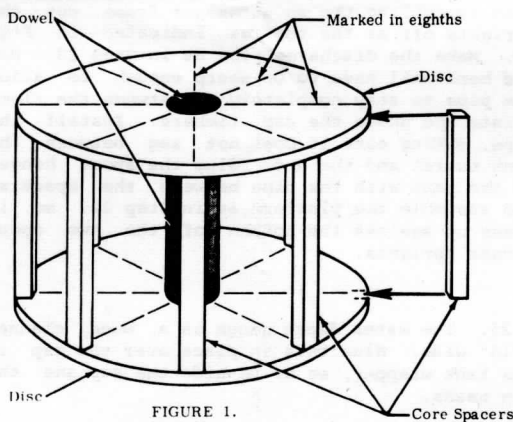

FIGURE 1.
2. Make the tank core as shown in Fig. 1. Place both hardboard discs upon one end of the ½" dowel tightly together. If you find them slightly out of concentricity, rotate one until they both match fairly even. Now make a mark on both edges at a certain point. This point we will call number one. Then mark off each disc on the smooth side evenly into eighths, as shown. Glue a disc at each end of the ½" dowel, with the marks above each other, keeping the number ones together and both discs concentric. Glue the eight ¼" x ¼" wood spacers between the discs, in line with the marks. As you glue each spacer, rest the disc rims against the table, and press the spacer out flush with the edges of the discs. Repeat with all the spacers so they will hold the wrapper straight from top to bottom. Set the tank core assembly aside to dry thoroughly.